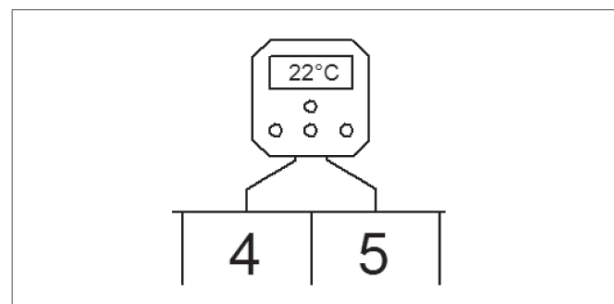

Figure 9 - Modulating thermostat connection
1. Connect the two control wires to terminals 4 and 5 (see figure 9 or the electrical wiring diagram in §11.).